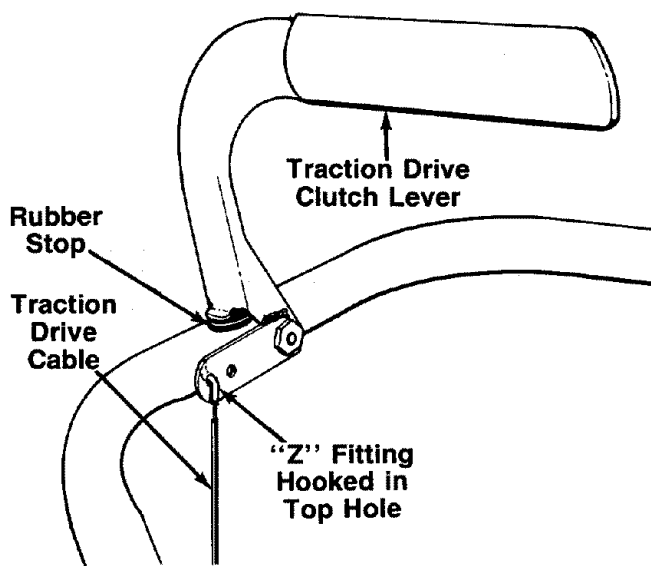
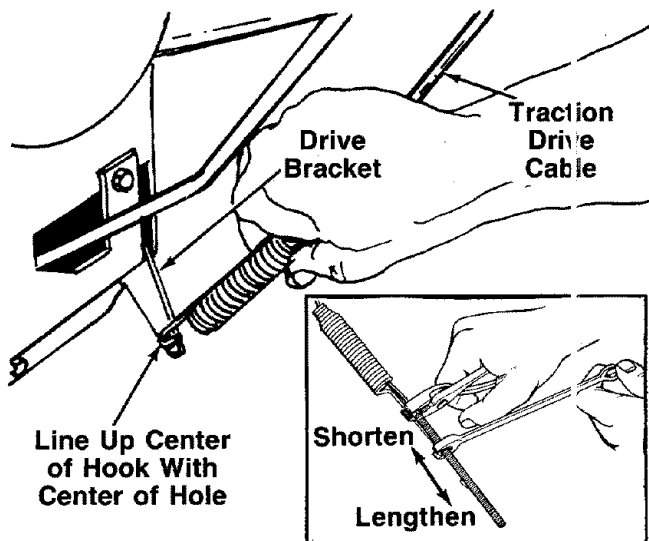

FIGURE 11.
FIGURE 12.
1. Hook the "Z" fitting on the end of the cable into top hole in the traction drive clutch lever (right hand side of handle). Hook the fitting from the inside as shown in figure 11.
2. Raise the clutch lever so it is just touching the rubber stop on the handle. See figure 11. With the clutch lever in this position, swing the traction drive cable down and simply hold it beside the drive bracket. **Do not pull on spring. Do not move bracket. The hook on the end of the spring must line up with the center of the hole in the drive bracket.** See figure 12.
If it does not, adjust the nut on the cable by sliding the spring up and using a 7/16" wrench and pliers to move the nut on the end of the cable up or down as necessary until the hook on the spring aligns with the center of the hole in the bracket. See figure 12, inset.